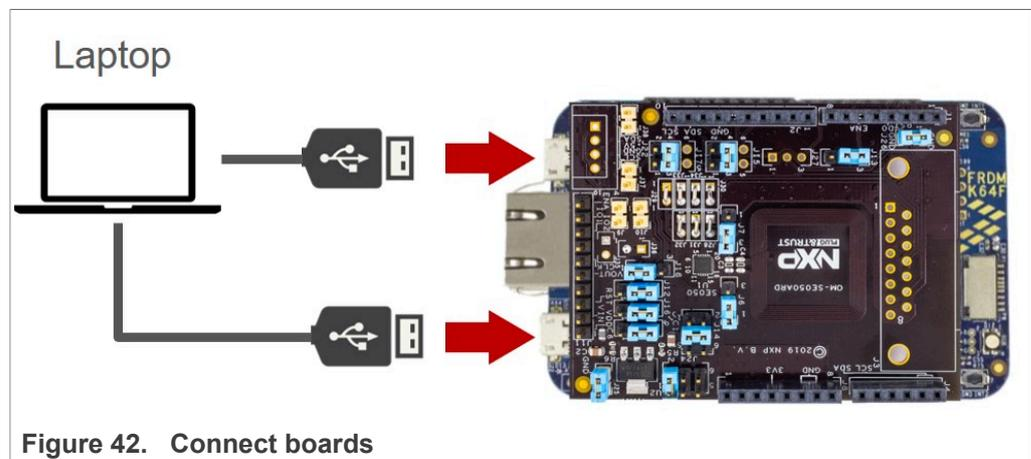

Figure 42. Connect boards
1. Mount OM-SE050ARD on top of the FRDM-K64F. Then, connect FRDM-K64F OpenSDA port and K64F port to your laptop as shown in Figure 42